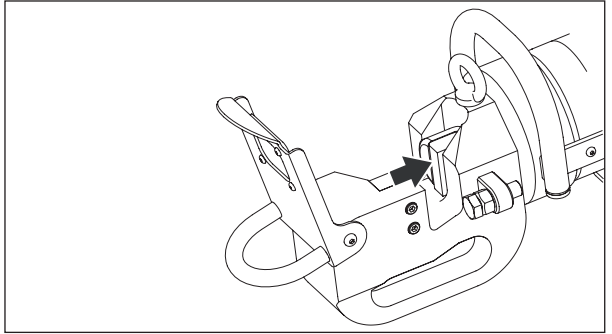

Figure 8, Piston and Blade in Home Position (fully retracted)
Always be sure that the piston and moving blade are in the fully retracted "home" position before placing any material inside the cutting head. See Figure 8.
2. Be sure that the piston is in the “home” (fully retracted) position. See Figure 8.
1. Start the pump. Move the piston to the “home” position (fully retracted). See Figure 8.